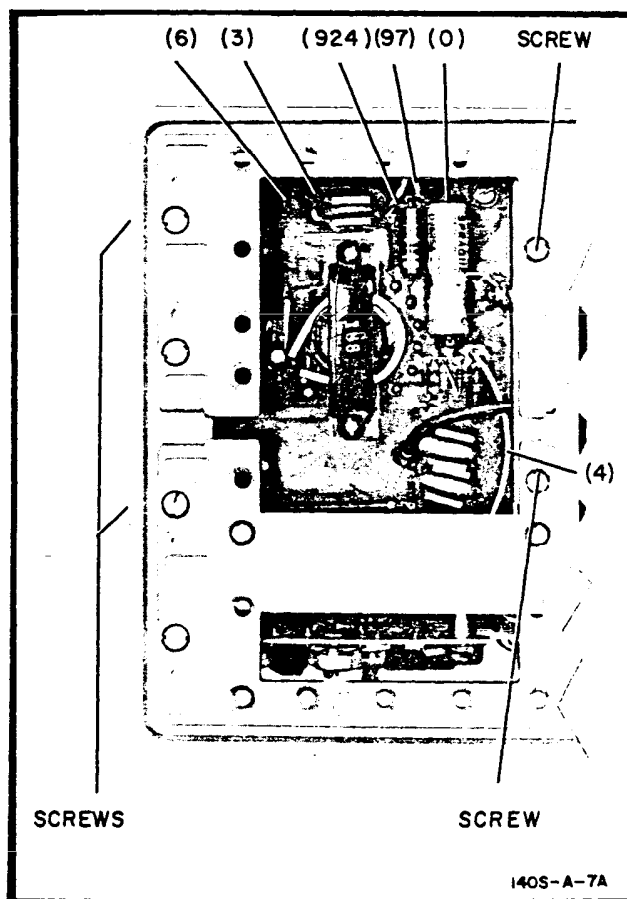

Figure 8-1. High Voltage Rectifier Deck Removal
8-29. H- V DECK REMOVAL AND REPLACEMENT. Most of the components on the high voltage deck can be replaced without removing the assembly. Other components can be replaced by moving the deck part way out (without disconnecting wires). Refer to Figure 8-1 for mounting screw and wire identification; use the following procedure for removing the high voltage deck.
- b. Disconnect 6 wires from the board and remove the 4 board mounting screws; see Figure 8-1 for wire and screw identification.